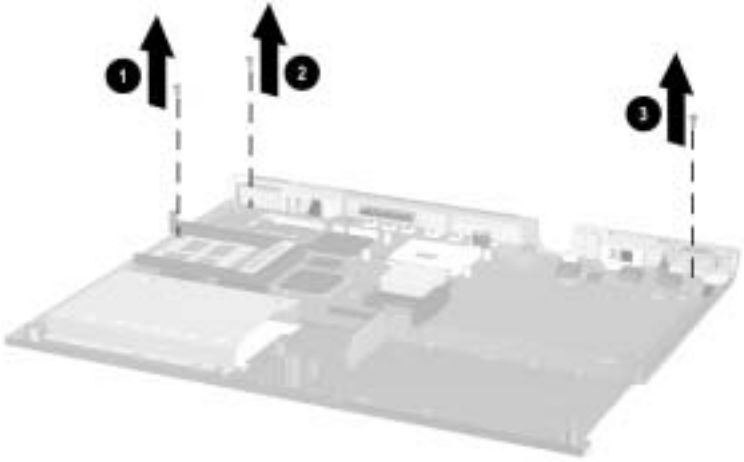

Figure 5-43. Removing the System Board Screws
- ☐ TM2.5 × 5.0 screw ❶ next to the PC Card assembly (Figure 5-43)
- ☐ TM2.5 × 5.0 screw ❷ next to the RJ-11 and RJ-45 connectors
- ☐ TM2.5 × 5.0 screw ❸ next to the audio connectors